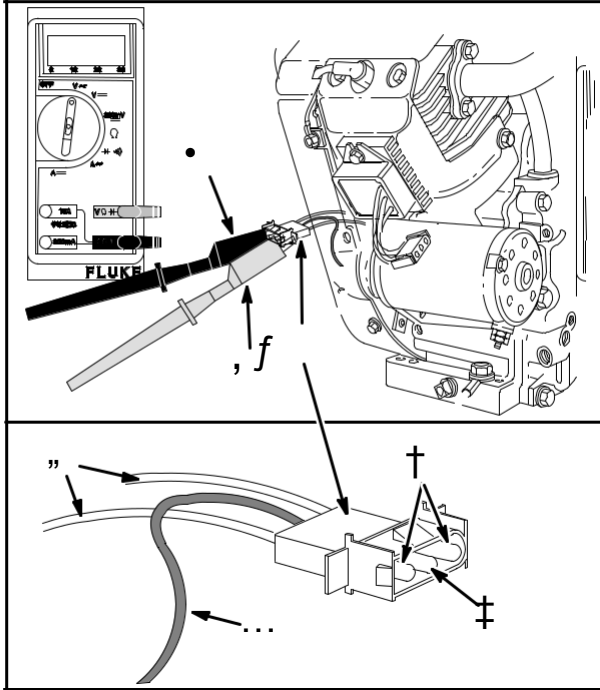

Fig. 31
Attach RED (2) and BLACK (1) test lead probes to the YELLOW wire (4) AC output terminals (6), of the connector (3), as shown in **Fig. 31**. (Meter test clip leads may be attached to either AC out-put terminal.)
Attach RED test lead probe (2) to the RED wire (5) DC output terminal (7), of the connector, **Fig. 31**.